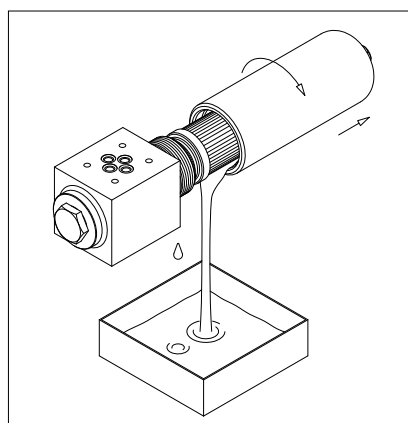

fig. 10
- (Fig. 10) Place a vessel to collect the operating fluid under the filter, unscrew the filter bowl and pull it out enough to drain the fluid, paying attention to dripping from the head and the filter element